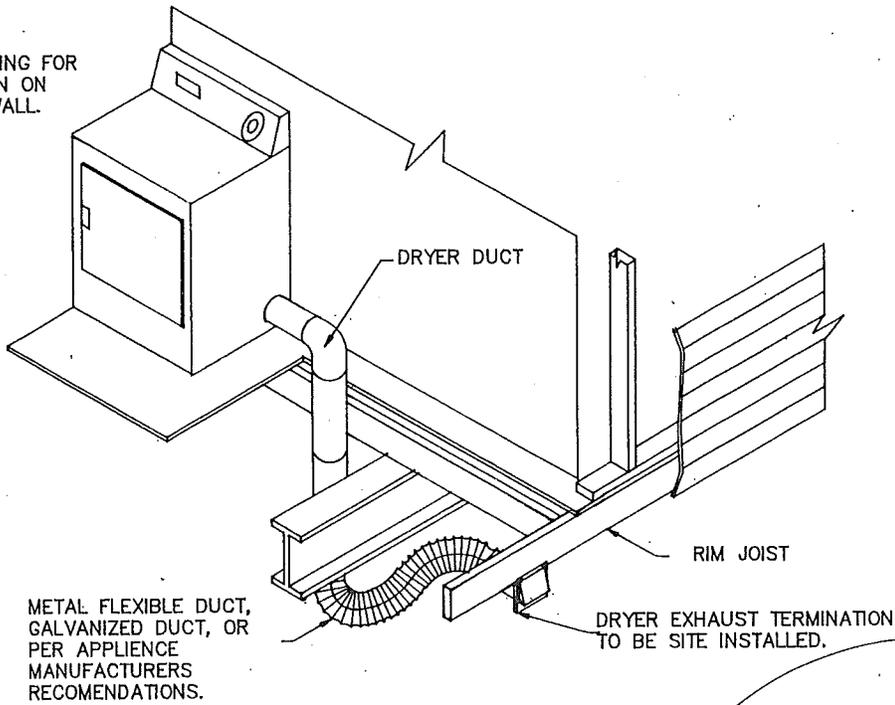

FIGURE 75
1. An access panel is located in the dryer area to provide access to the dryer end of the duct system. See Figures 75 and 76.
3. The exhaust system shall be completed on site as shown with materials provided by the owner. See Figures 75 and 76.